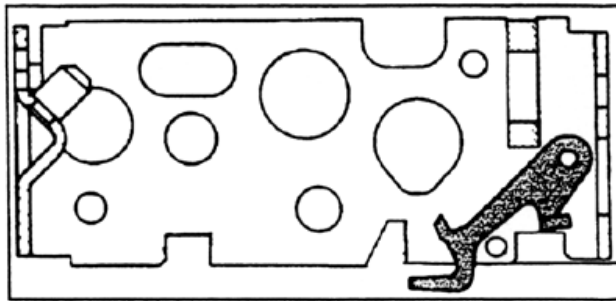

Figure 40
- Pull the hooked end of the *stop latch* down so the hook is extended below the bottom of the housing (Fig. 40)